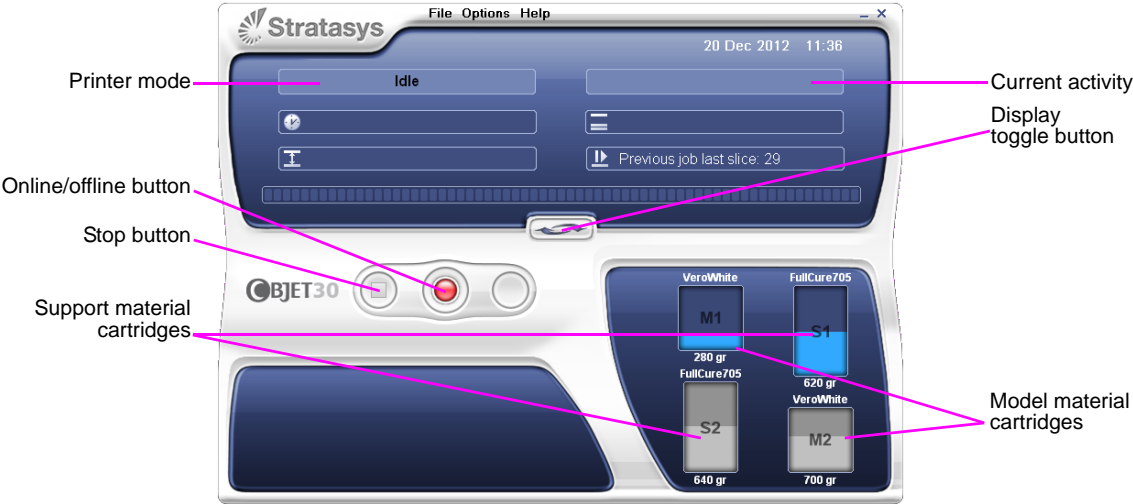

Figure 6-3: Objet30 interface
The Objet printer interface screen opens (see figure 6-3). All monitoring and controlling of the printer is done from this interface.
Objet30 printers use two cartridges of Model material and two cartridges of Support material, each weighing one kilogram when full. A graphical representation of the cartridges loaded and their current weight appears in the printer interface (see figure 6-3).
5. Check the printer interface to make sure that the new cartridge is detected and that its weight is displayed (see figure 6-3).
2. Make sure that there is sufficient Model and Support material loaded, as indicated in the printer interface (see figure 6-3). You may want to replace the cartridges of Model and Support material currently loaded in the printer to avoid the need for replacing them during printing.
1. If the printer is in offline mode, switch it to online mode by clicking the red button at the bottom of the printer interface (see figure 6-3 on page 3).